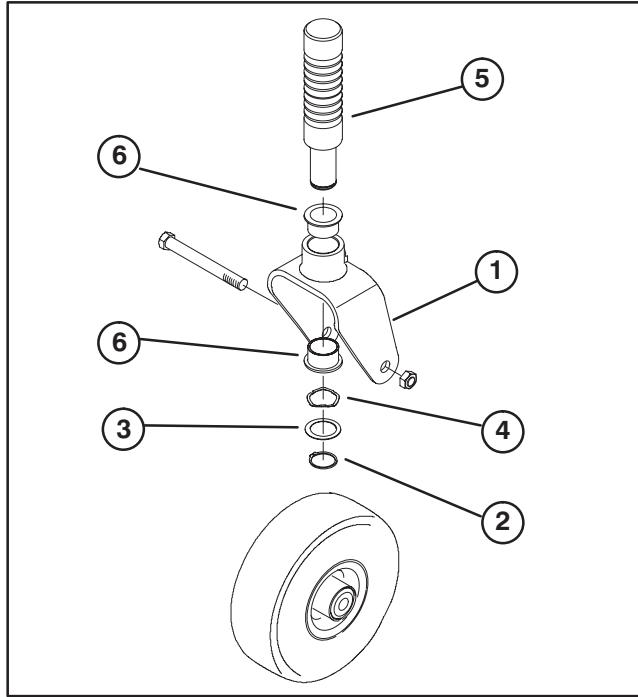

Figure 29
3. Remove locknut from capscrew holding castor wheel assembly between castor fork (Fig. 29). Grasp castor wheel and slide capscrew out of fork.